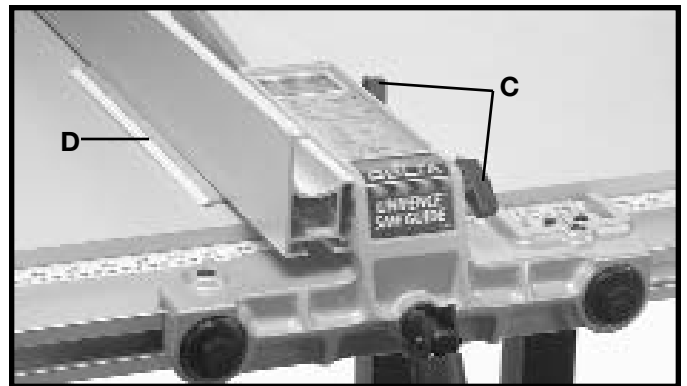

Fig. 38
2. For most normal ripping operations, the bottom of the fence should be positioned slightly above the table surface. Loosen two lock knobs (C) Fig. 38, and place a thin object such as a ruler (D) between the table and fence, as shown. Then tighten two lock knobs (C).